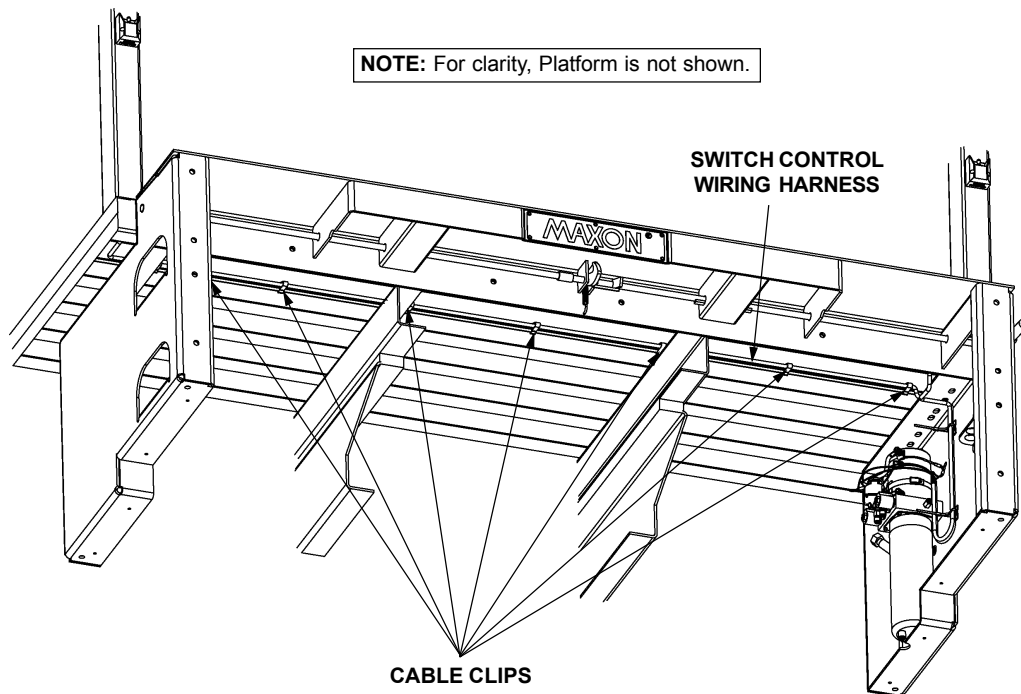

FIG. 5
4. Mount Switch Control Wiring Harness along bottom side of truck body with Cable Clips (**FIG. 5**).